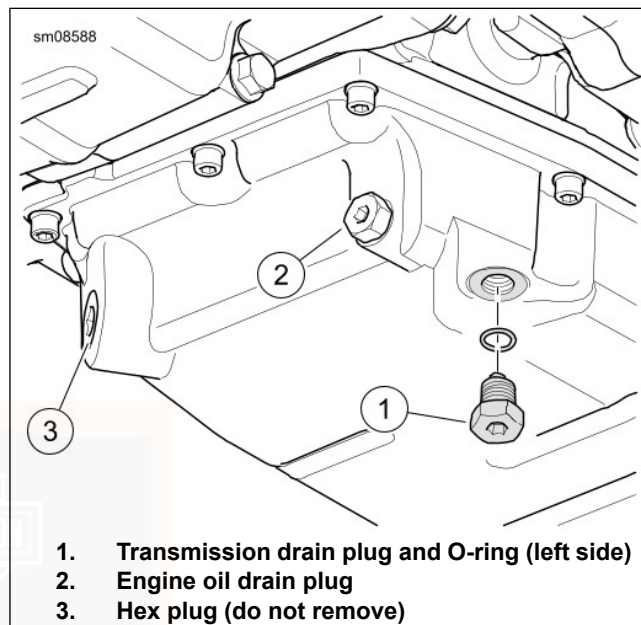

Figure 70. Transmission Drain
2. See Figure 70. Remove transmission drain plug. Drain transmission.